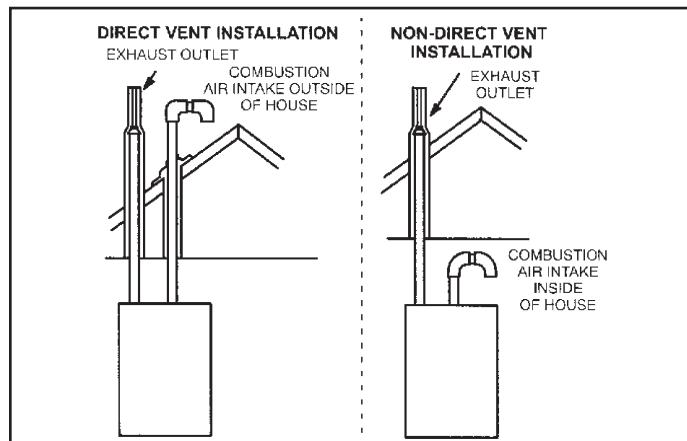
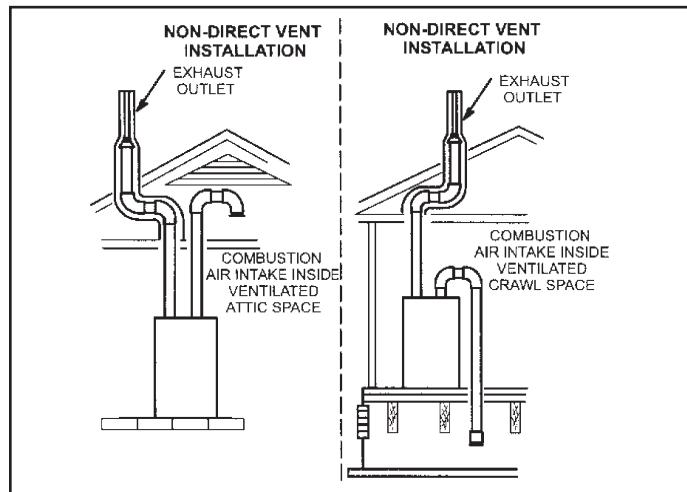

Figure 2.
Figure 3.
**NOTE:** *In Direct Vent installations, combustion air is taken from outdoors and flue gases are discharged outdoors. In Non-Direct Vent installations, combustion air is taken from indoors and flue gases are discharged outdoors. See Figure 2 and Figure 3 for applications involving roof termination.*